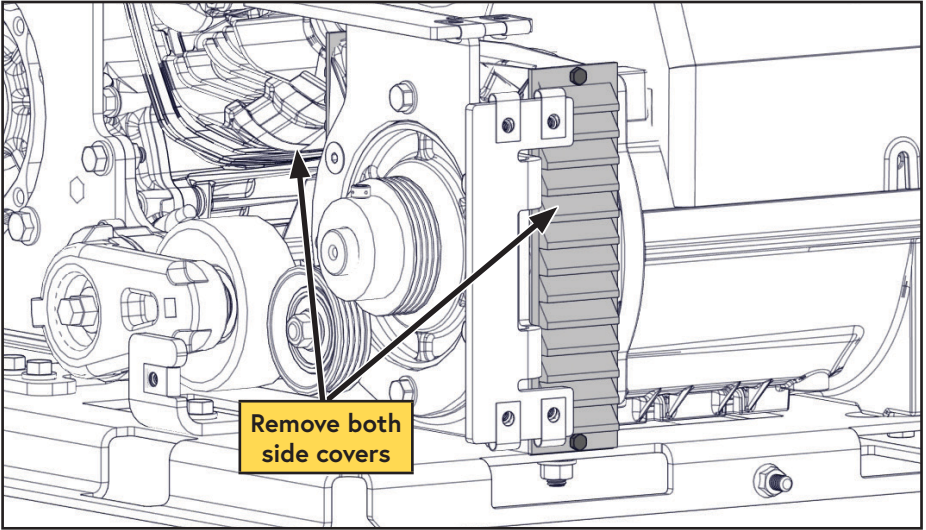

Figure 84 — Remove side covers
- ☐ Remove both of the louvered side covers (Figure 84).